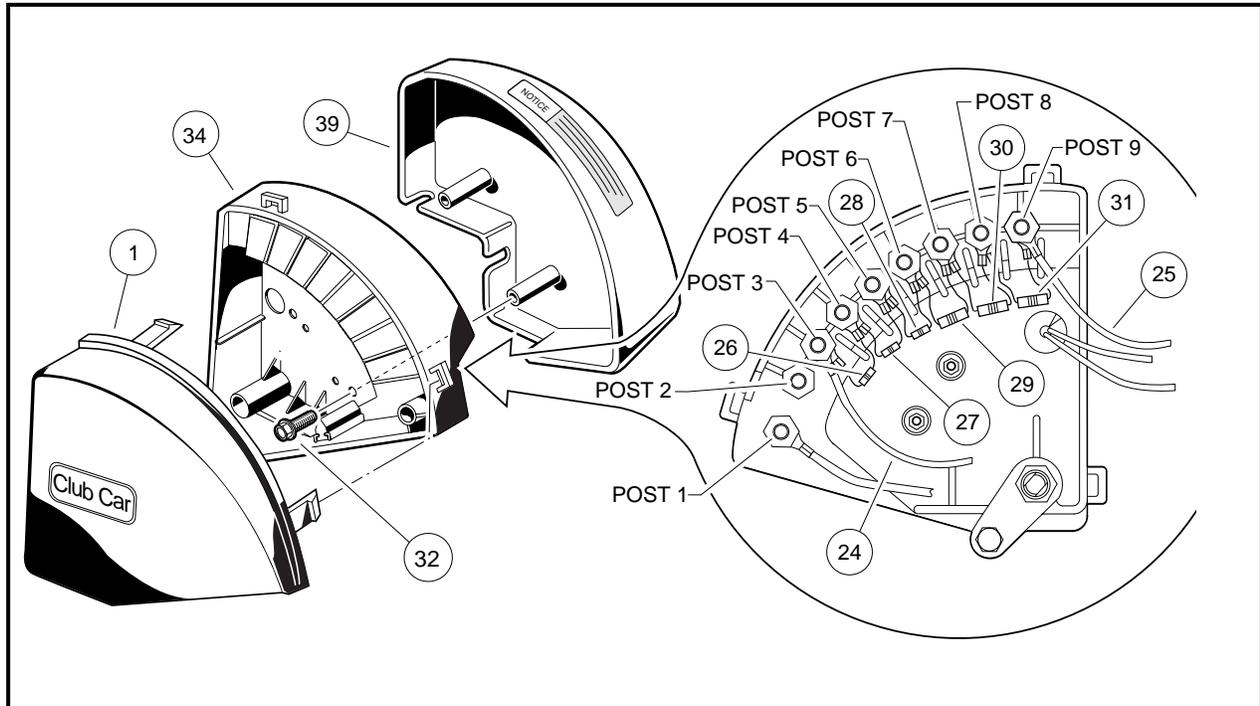

Figure 12-15 Resistors
1. Push locking tabs out of the retainers and remove multi-step potentiometer cover (1) **(Figure 12-15, Page 12-22)**.
2. Remove two thread-rolling screws and resistor protector cover (39) from the multi-step potentiometer **(Figure 12-15, Page 12-22)**.
1. Install the 910 ohm resistor assembly (26) (Club Car Part Number 1016017, color bands white, brown, and gold) onto the third and fourth threaded posts **(Figure 12-15, Page 12-22)**. **See following NOTE.**
2. Install the 750 ohm resistor assembly (27) (Club Car Part Number 1016015, color bands violet, green, brown, and gold) onto the fourth and fifth threaded posts **(Figure 12-15, Page 12-22)**.
3. Install the 910 ohm resistor assembly (28) (Club Car Part Number 1016017, color bands white, brown and gold) onto the fifth and sixth threaded posts **(Figure 12-15, Page 12-22)**.
4. Install the 1000 ohm resistor assembly (29) (Club Car Part Number 1018269-03, color bands brown, black, red, and gold) onto the sixth and seventh threaded posts **(Figure 12-15, Page 12-22)**.
5. Install the 1000 ohm resistor assembly (30) (Club Car Part Number 1018269-03, color bands brown, black, red, and gold) onto the seventh and eighth threaded posts **(Figure 12-15, Page 12-22)**.
6. Install the 1000 ohm resistor assembly (31) (Club Car Part Number 1018269-03, color bands brown, black, red, and gold) onto the eighth and ninth threaded posts **(Figure 12-15, Page 12-22)**.
7. Make sure the purple wire (24) is connected to the third threaded post and the white/black wire (25) is connected to the ninth threaded post **(Figure 12-15, Page 12-22)**.
8. Install seven 1/4-20 hex nuts onto the threaded posts (with resistors attached) and tighten to 40 in.lb (4.5 N-m) **(Figure 12-15, Page 12-22)**.